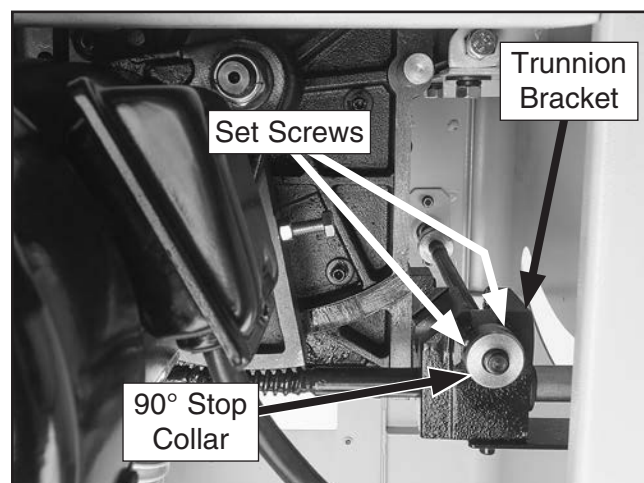

Figure 104. 90° stop collar and set screws.
5. Open motor door, loosen set screws shown in **Figure 104**, then thread 90° stop collar one turn away from trunnion bracket. This will allow you to square blade in next step.